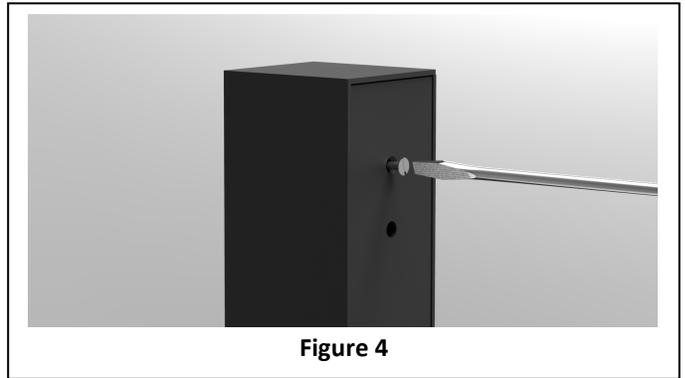

Figure 4
Step 5. Using a flat blade screwdriver, remove back cover plate from fixture housing. (Fig. 4)